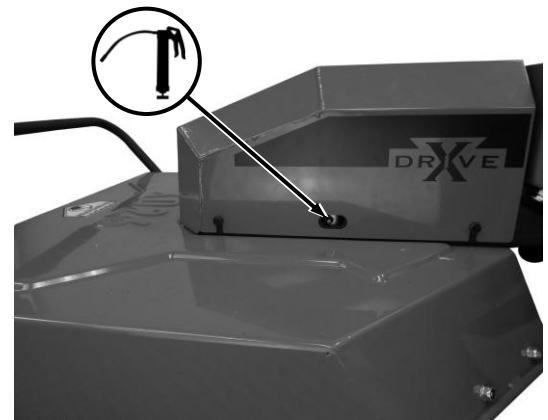

Figure 30
1. Clean the Grease Fitting with a clean Rag (**Figure 30**).